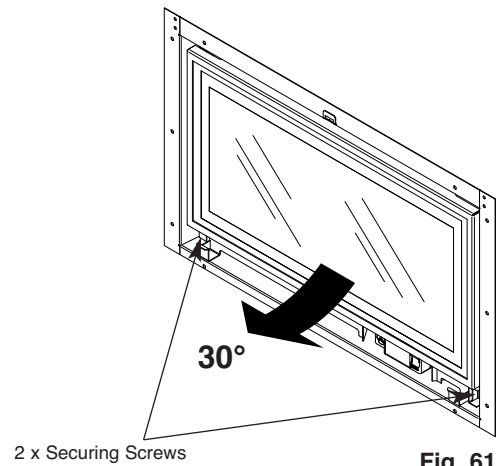

Fig. 61
1. Remove the two screws at the bottom of the glass door panel (Fig. 61).
2. Hinge the door upwards by approximately 30° (Fig. 61).